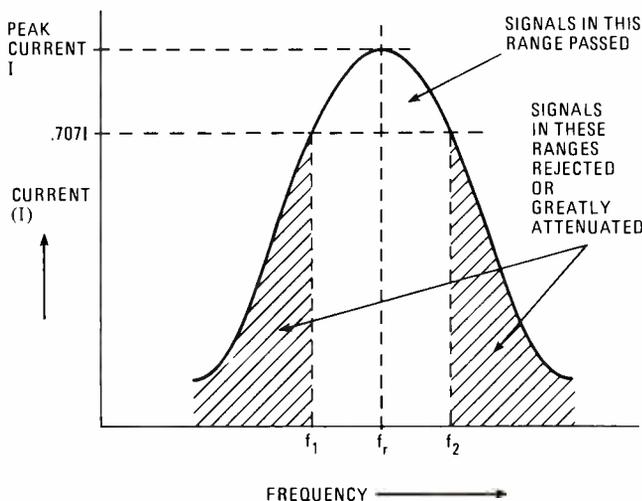

Fig. 7—The peak signal current in a series-resonant tuning circuit occurs at  $f_r$ , the resonant frequency.
15. (series) The ability of a resonant or tuned circuit to select a signal depends upon the response of the circuit to frequency changes. You saw this earlier in the plots of impedance and current vs. frequency. Figure 7 shows how the circuit current varies with frequency changes of the applied voltage. At the resonant frequency ( $f_r$ ), the current is the highest and the resonant step-up voltage appears across the capacitor. The idea is to adjust the capacitance value so the resonant frequency of the circuit corresponds to the transmitting frequency of the station to be received. At this time, peak current occurs.
16. (equals) The important thing to note in Fig. 7 is that the plot of current vs. frequency is not a single sharp spike occurring at the resonant frequency. Instead, the current is high over a range of frequencies. It drops off gradually on either side of the peak. For that reason, the tuned circuit will pass or accept frequencies close to and on either side of the resonant frequency nearly as well as a signal exactly at the resonant frequency. This range of frequencies over which a tuned circuit will accept signals is called the *passband* or the *bandwidth* of the circuit.
18. (good selectivity) The size of a passband is called the *bandwidth* and is measured in frequency. It is measured between two points on the curve that are 70.7% of the peak value. At these points, the amplitude is 3 dB down from the peak value. Specifically, the peak value of the circuit current is multiplied by .707 to obtain the upper and lower points on the curve that defines the circuit bandwidth. See Fig. 7. The .707 amplitude points define two frequencies,  $f_1$  and  $f_2$ . It is assumed that any signal whose frequency is between these two points will be passed essentially unattenuated. Any frequency outside the bandwidth will be greatly attenuated or rejected by the tuned circuit.
19. (.707) Refer to Fig. 7. If the peak is 3, the bandwidth is defined by those points on the curve that are  $.707 \times 3 = 2.121$ . The point below the center or resonant frequency ( $f_r$ ) is called the lower cut-off frequency ( $f_1$ ). The other point above the center frequency is called the upper cut-off frequency ( $f_2$ ). The difference between the upper and lower cut-offs is the bandwidth (BW).